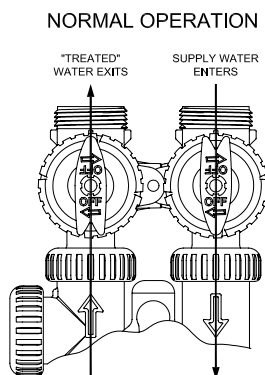
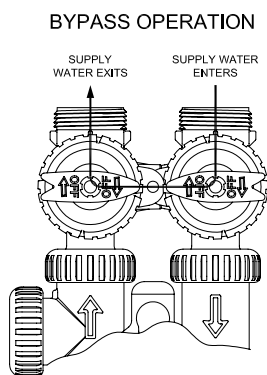

Figure 3
Figure 4
2. Place the bypass valve in the bypass position. (See figure 3 page 5) Turn on the main water supply. Open a cold soft water faucet to flush the piping of any air and/or foreign material. Run until the water is clear.
6. Push REGEN button and hold it down for 3 seconds. The system will advance to the “First” position. (Note: Depending on how the system is programmed it could read backwash, rinse, brine or fill). Pushing REGEN button until “Rinse” shows in the left upper hand corner of display. Slowly place the bypass into the “diagnostic mode” (see fig 4, page 5). Run water to the drain until it runs clear. Return the bypass valve to the by-pass position (fig 3, page 5). Push REGEN button until unit is back to softening mode. **Repeat with second tank.**